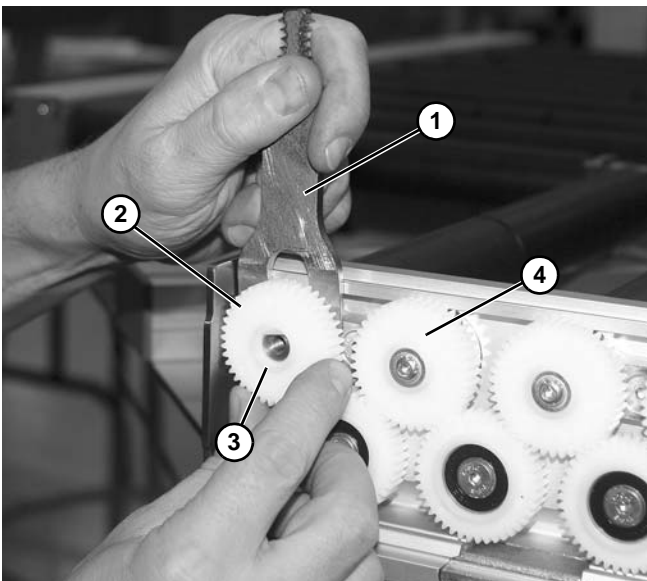

Figure 62
4. Install opposite end of sprocket removal tool (Figure 62, item 1) to pry gear (Figure 62, item 2) from roller shaft.
5. Remove the gear (Figure 62, item 2) from the roller shaft. Make note of the raised flange (Figure 62, item 3) on the gear. This raised flange should be installed toward the outside.
6. Repeat for second gear (Figure 62, item 4).